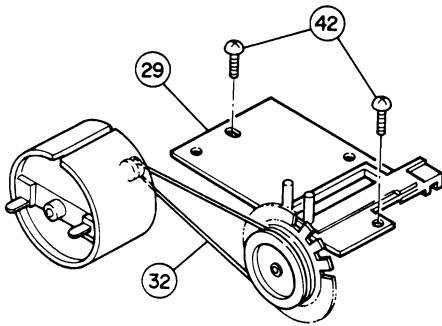

Figure 4
- Remove belt (32), take out the 2 screws (42) that fasten the Bearing Assembly (29), and remove the Bearing Assembly as shown in Figure 4.